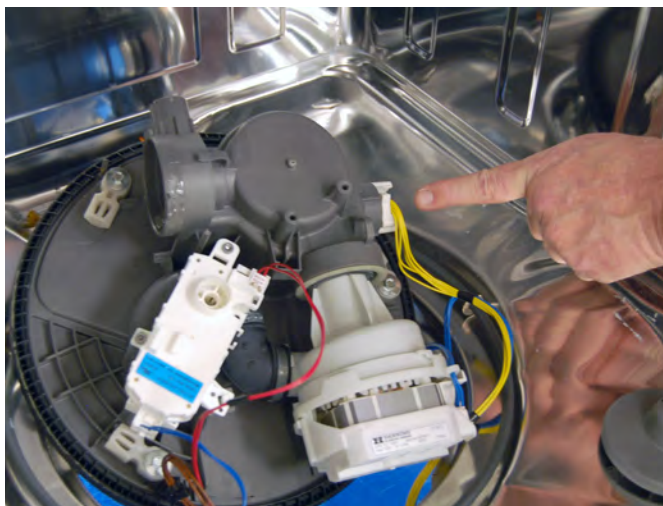

Figure 17
12. Unplug the OWI / NTC harness, see figure 17.